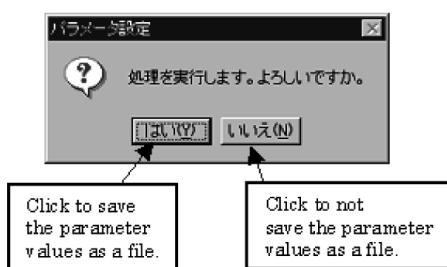

Fig. 9.4.3 Message Box
4. When [保存 (S)] [Save] is clicked, the message box as shown in Fig. 9.4.3 appears. Here, click [はい (Y)] [Yes].